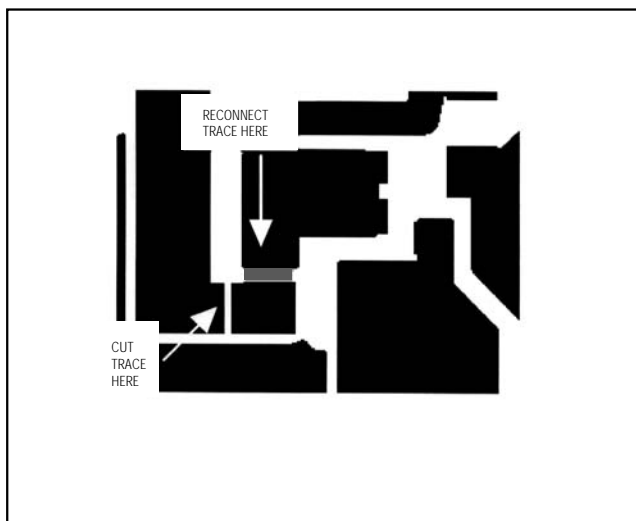

Figure 11. PC Board Changes for -48V and -70V Operation
- 1) Cut the trace from the transformer's 1/3 tap to the output diode, and then solder a wire jumper from the transformer's 2/3 tap to the diode (D2) (Figure 11).